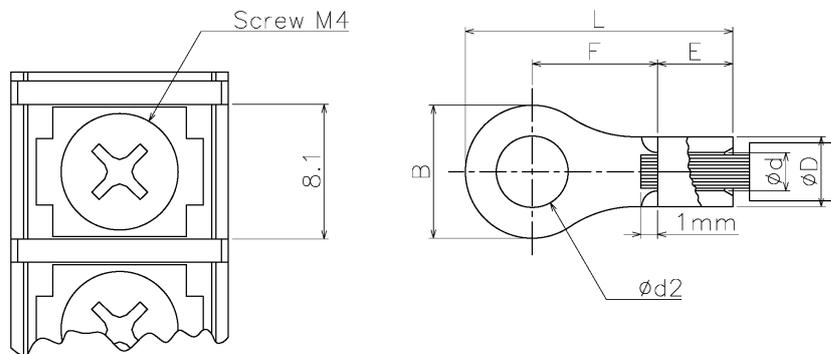

Figure 2.6b Terminal lug example (non-insulated ring terminal : JIS C 2805)
- The width of the connection facilities for a terminal lug is 8.1mm and the fastener for a terminal lug is M4 screw, therefore the dimensions should be  $B < 8.1\text{mm}$  and  $d2 > 4\text{mm}$  in case of ring terminal as Figure 2.6b
- Stripping length depends on the terminal lug type and shape. Please follow the instructions for each terminal lug. Figure 2.6b shows an example in case of non-insulated ring terminal (JIS C 2805)